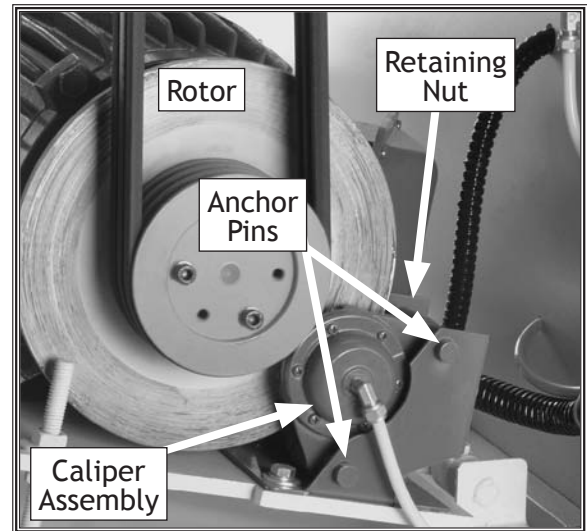
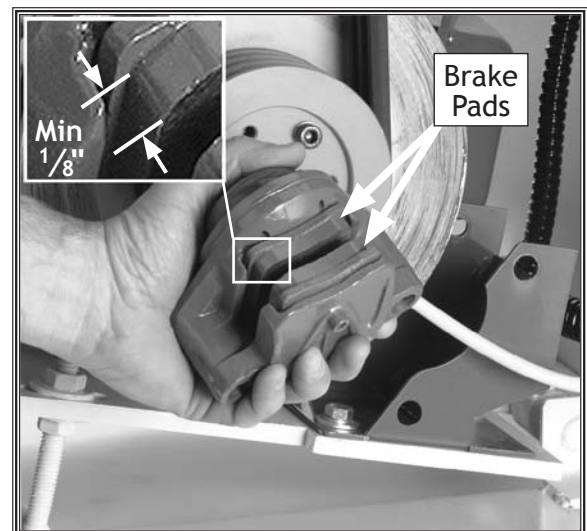

Figure 36. Brake assembly.
Figure 37. Brake caliper removed for access to brake pads.
Check the brake rotor (shown in **Figure 36**) regularly to make sure it is clean and the pads are still in good condition (thicker than $\frac{1}{8}$ ", see **Figure 37**). Using the emergency stop system for daily machine shutdown will wear out the sanding belts and the brake pads. Inspect for any grease or oil on the brake rotor as oil reduces emergency braking ability. To clean any lubricants from the rotor, only use automotive brake parts cleaner and a dry rag. Replace brake shoes if they are contaminated with oil. **DO NOT** re-use!
2. Use a 14mm wrench and remove the two caliper anchor pin retaining nuts and washer (see **Figure 36**).
3. Use locking pliers to clamp on the anchor pin end and pull the pin from the caliper mount, and remove the springs and caliper (see **Figure 37**).